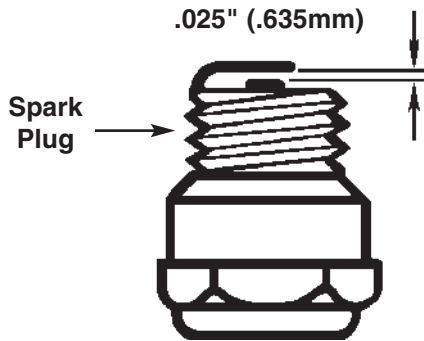

Fig. 25
2. Spark plug gap = .025" (.635mm) (Figure 25).